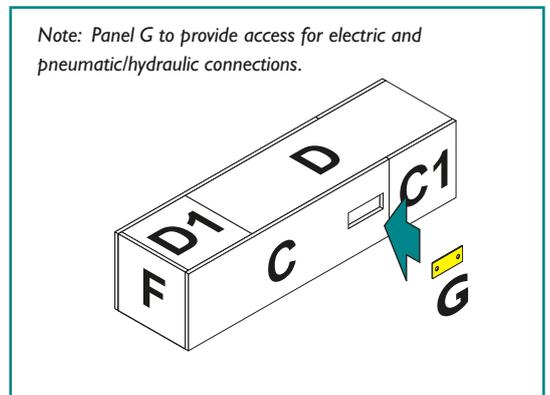

figure 11
2.2.10 Mount wicket gate G to panel C. (figure 11)